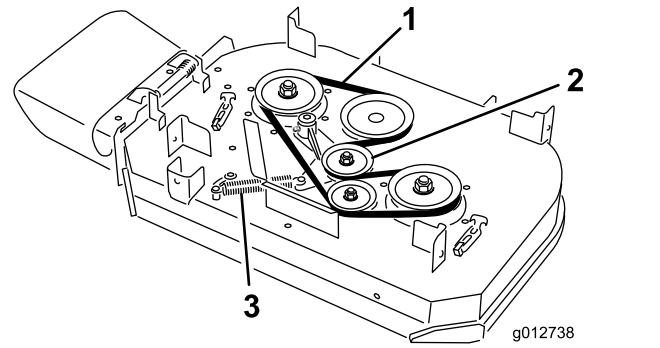

Figure 62
4. Remove the spring from the anchor post on the idler-pulley arm (Figure 62).
5. Remove the worn mower belt (Figure 62).
6. Install the new mower belt around the clutch pulley, the deck pulleys, and the idler pulley (Figure 62).
7. Install the spring onto the anchor post on the idler-pulley arm (Figure 62).
5. Remove the right mower-deck belt (Figure 62).
- A. Remove the spring from the anchor post on the idler-pulley arm (Figure 62).
- B. Remove the worn mower belt (Figure 62).
- C. Install a new mower belt around the deck pulleys, the clutch pulley, and the idler pulley (Figure 62).
- 7. Install the previously removed or a new mower belt around the deck pulleys and idler pulley (Figure 62).
- 8. Install the spring onto the anchor post on the idler-pulley arm (Figure 62).